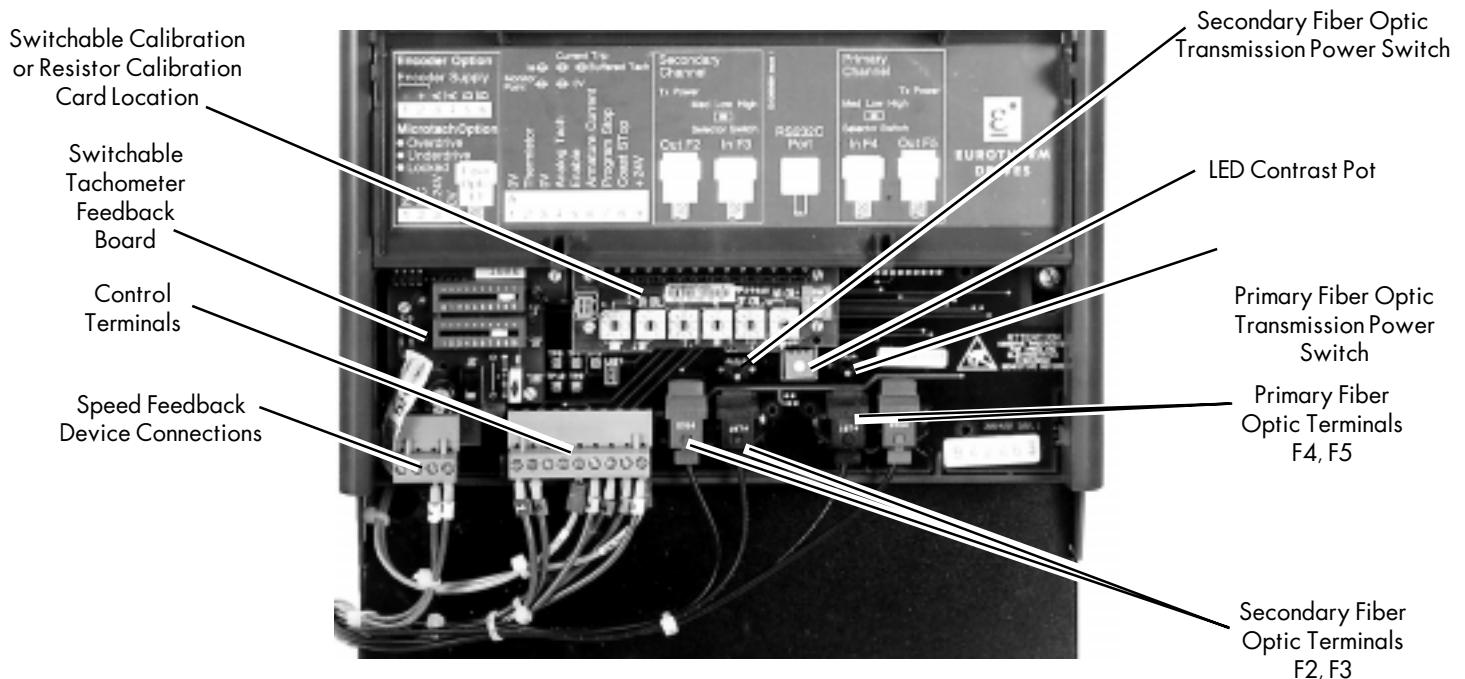

Figure 3.10 - Close up View of Lower Portion of 590 *LINK* Control Board (Switchable Calibration Card Shown)
Each speed feedback board mounts on the lower left portion of the control door as shown in Figure 3.10. Terminal assignments for each option board are listed in Appendix A and in the documentation shipped with the boards.
The *LINK* fiber optic connections are shown in Figure 3.10. The drive has two pairs of communication ports, each with a RED transmit terminal and a BLACK receive terminal. The right two ports, F4 (primary receive) and F5 (primary transmit), support a simple ring network topology. The left pair, F2 (secondary transmit) and F3 (secondary receive), are used for redundant or tapped ring topologies.
You can adjust the transmission power level of each fiber optic transmitter by setting the transmission range switches on the drive's control board. These switches are located above F3 and F4, the receive ports of each channel (see Figure 3.10). Transmission ranges are listed in Appendix A, Technical Description.
Either of two types of calibration cards scale the drive to the motor's armature voltage, armature current and field current. One card uses solder-in resistors, the other uses adjustable switches. The calibration board plugs into the 590 *LINK* DRV main control door under the lower, hinge-up access panel as shown in Figure 3.10. A switchable calibration card ships with all 590 DRV Digital drives rated through 400 HP. Models rated 500 HP and above ship with a resistor calibration card. You can order the resistor card on lower horsepower models as an option.
3. Set the field current to the motor's nameplate rating. Field current is set in units of amps, using the right three rotary switches for tens, ones, and tenths. As with armature current, the range depends on the type of drive. The overall range is from 0.1 - 19.9A with 590 *LINK* DRV models. Turn the rotary switches to the appropriate setting for your motor. Figure 3.10 is set for a 8.4 amp field. Use `SETUP PARAMETERS:: CALIBRATION:: FIELD I CAL` in the MMI, or `CAL FIELD CURRENT` in SAM to fine tune the calibration.